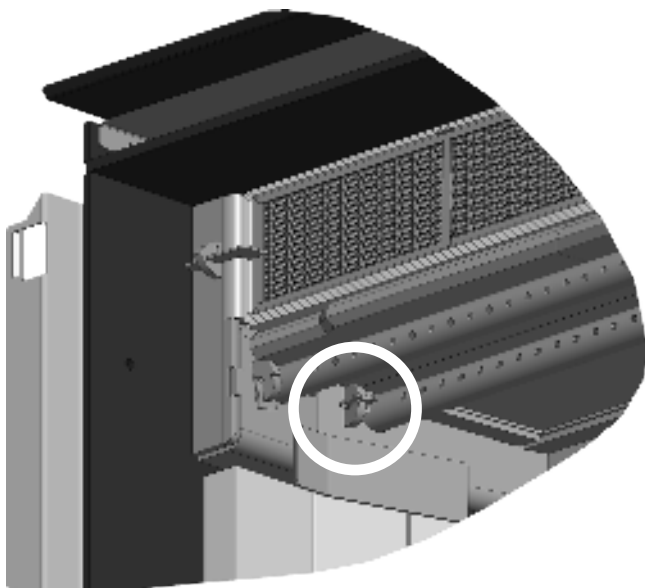

Figure 5.8. Remove the air tube retainer clip
2. Locate the rear retainer clip. Rotate the rear retainer clip to the horizontal position and pull away from the tube to remove. Fig. 5.8.